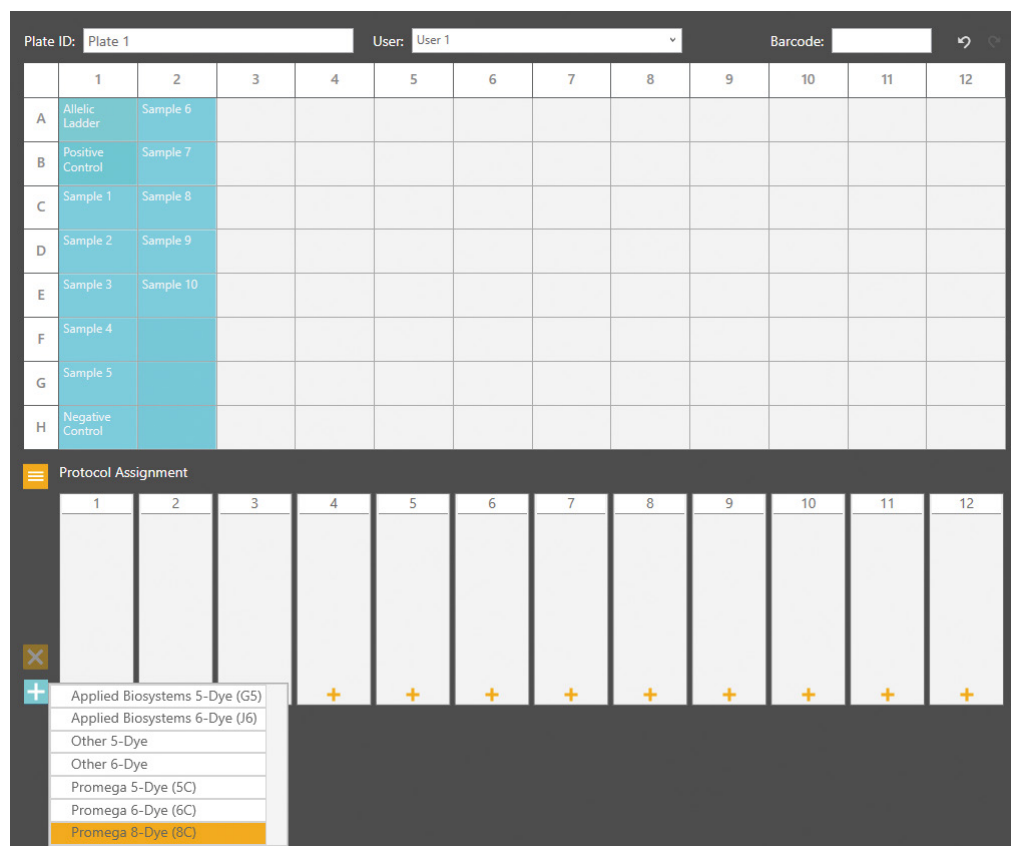

Figure 15. Assigning run protocol to multiple injections.
- To add a run protocol to multiple injections, highlight the desired injections in the plate map (click-drag, Ctrl + left-click or click the upper left cell). Then select the **+** button on the left side of the injection information section and select **Promega 8-Dye (8C)** (Figure 15) from the pop-out menu.